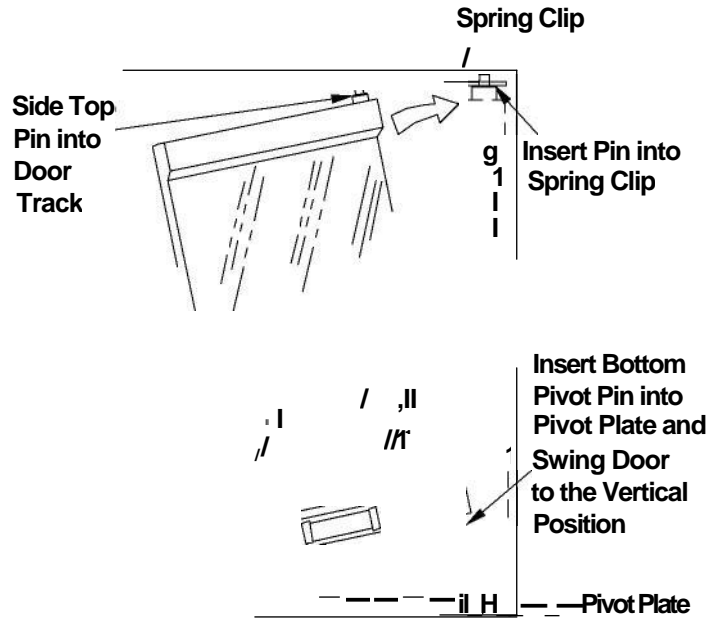

Figure 5 - Installing Glass Door
2. With cabinet door open, insert bottom pivot pin into pivot plate located near bottom corner of front face opening. Swing door to the vertical position, making sure top pin slides into door track. Door is installed when top door pin snaps into spring clip (see figure 5).